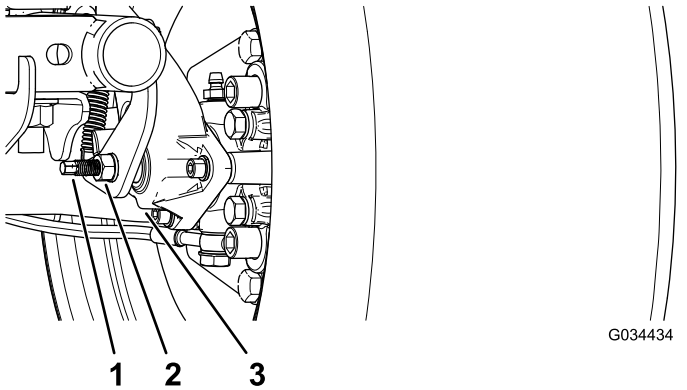

Figure 64
3. Using 2 wrenches, hold the adjusting post on the caliper in place with 1 wrench, and loosen the jam nut 1/4 turn with the other wrench (Figure 64).
4. While holding the adjusting post and the jam nut in place, turn the adjusting post in to tighten (Figure 64).
5. While holding the adjusting post and the jam nut in place, back off 1/4 turn (Figure 64).
6. While holding the adjusting post and the jam nut in place, tighten the jam nut (Figure 64).